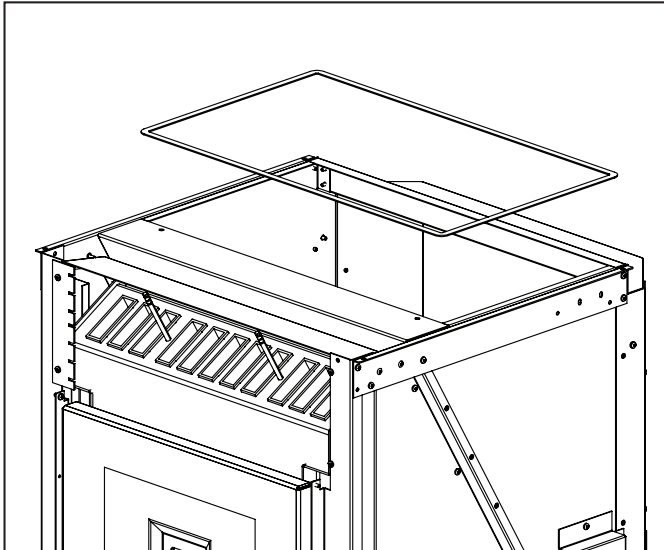

Figure 7: Original lid gasket removal.
7. Remove old lid gasket, a utility knife may be required, figure 7.